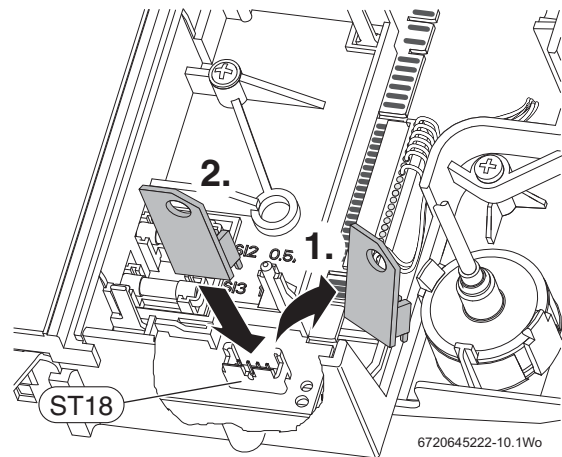

Fig. 3 Remove and replace the code plug
1. Refer to figure 3 and remove the code plug from the controller, cut the tie securing the plug to the boiler chassis and discard the plug and tie.